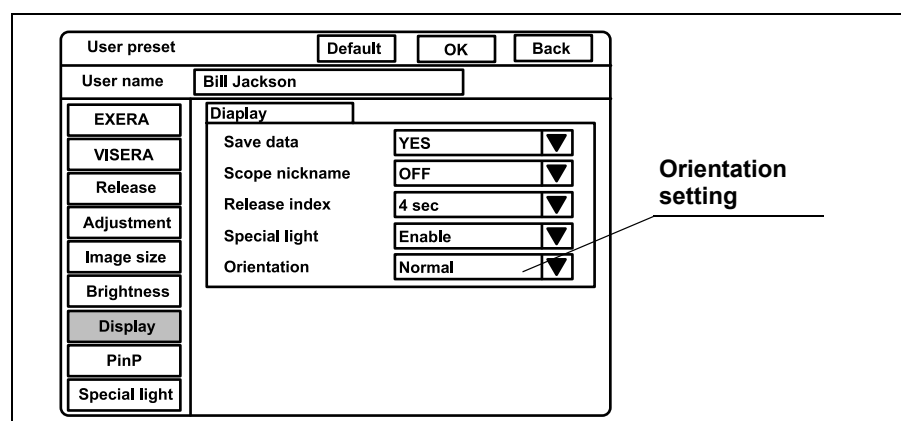

Figure 9.39
1. Click “▼” of “Orientation” (see Figure 9.39). The settings of “Normal” and “Rotation” appear in the pull-down menu.